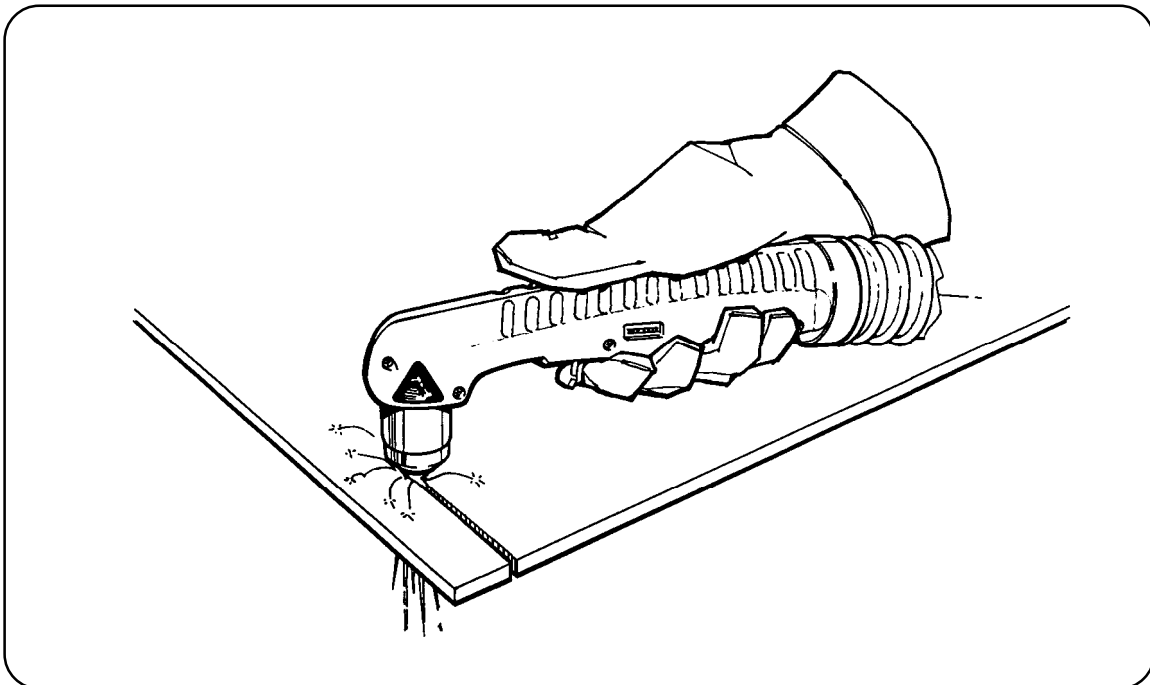

Figure 4-8 Dragging the Torch
- Hold the torch nozzle at a vertical position and watch the arc as it cuts along the line (Fig. 4-8). By lightly dragging the shield on the workpiece, you can maintain a steady cut. For straight-line cuts, use any straight edge as a guide.